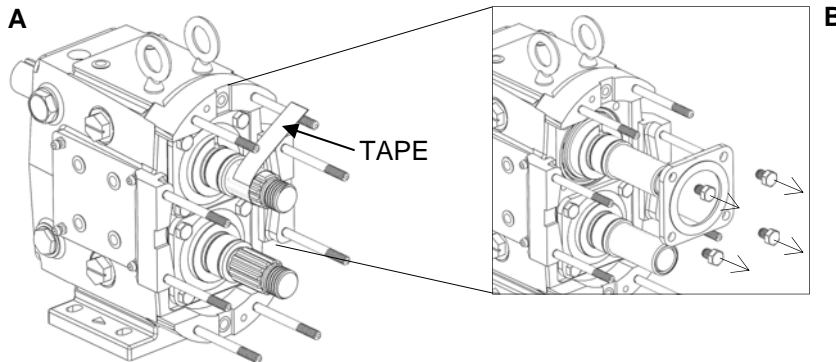

Figure 45: Tape Shafts and Remove Bearing Retainers
3) To prevent damage to the shafts, wrap the splines and rotor nut threads with tape (Figure 45, A). Any damage to the splines or threads may require the shaft be replaced. Remove the cap screws holding the bearing retainers in place and slide both bearing retainers off the shaft (Figure 45, B). If they are stuck, use a flat head screw driver as a wedge to pry them from the gear case or leave them in place and when the shafts are removed they will press off with the shafts. Using a straight edge, remove the liquid gasket used to seal bearing retainer to the gear case.